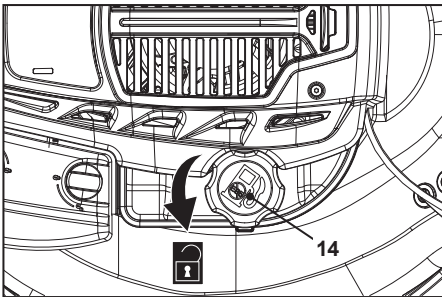

Fig. 7
3. Unscrew and remove the fuel tank cap (14) (Fig. 7).